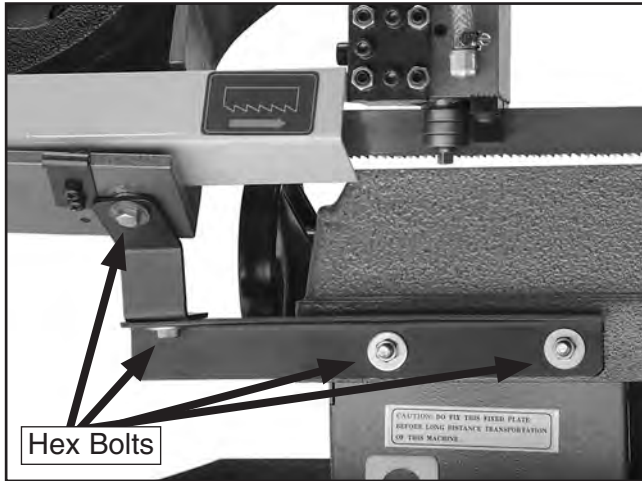

Figure 8. Shipping bracket.
1. Remove all four hex bolts shown in **Figure 8** with a 12mm wrench.